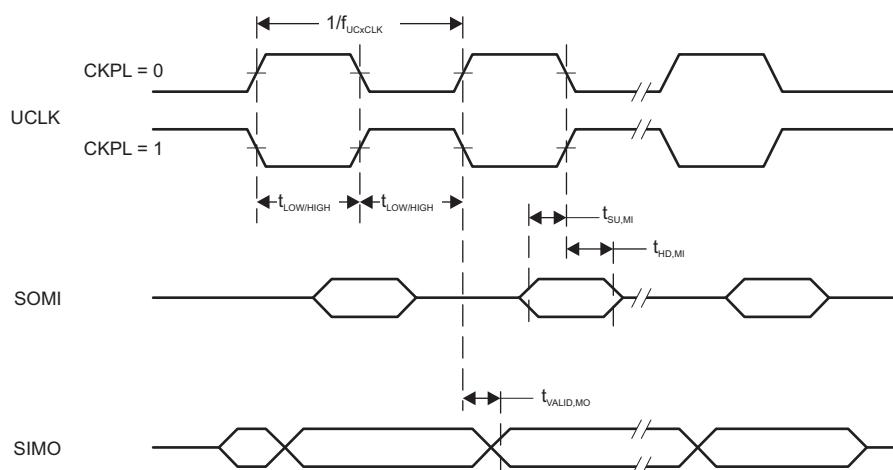
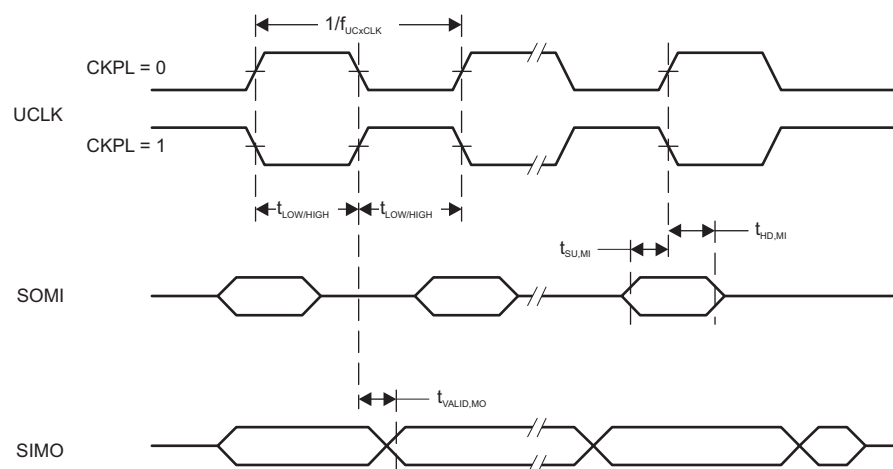

Figure 5-10. SPI Master Mode, CKPH = 0
Figure 5-11. SPI Master Mode, CKPH = 1
(2) Specifies the time to drive the next valid data to the SIMO output after the output changing UCLK clock edge. Refer to the timing diagrams in Figure 5-10 and Figure 5-11.
(3) Specifies how long data on the SIMO output is valid after the output changing UCLK clock edge. Negative values indicate that the data on the SIMO output can become invalid before the output changing clock edge observed on UCLK. Refer to the timing diagrams in Figure 5-10 and Figure 5-11.